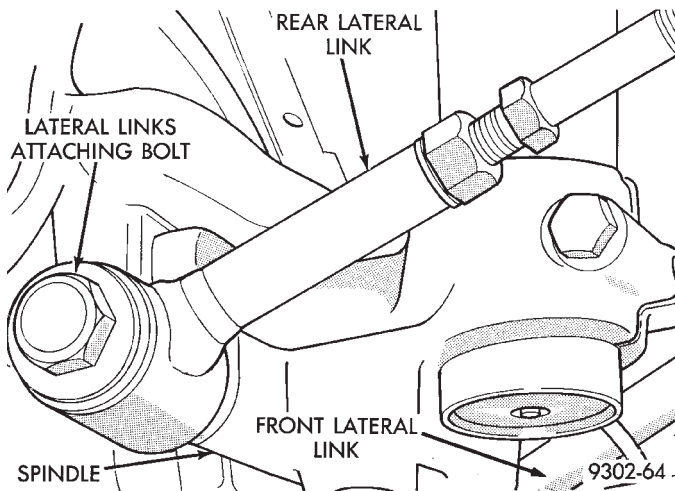

Fig. 14 Lateral Links To Spindle Attaching Bolt
(2) Install the lateral links to spindle attaching bolt (Fig. 14). Torque the lateral links to spindle attaching bolt to 140 N•m (105 ft. lbs.).